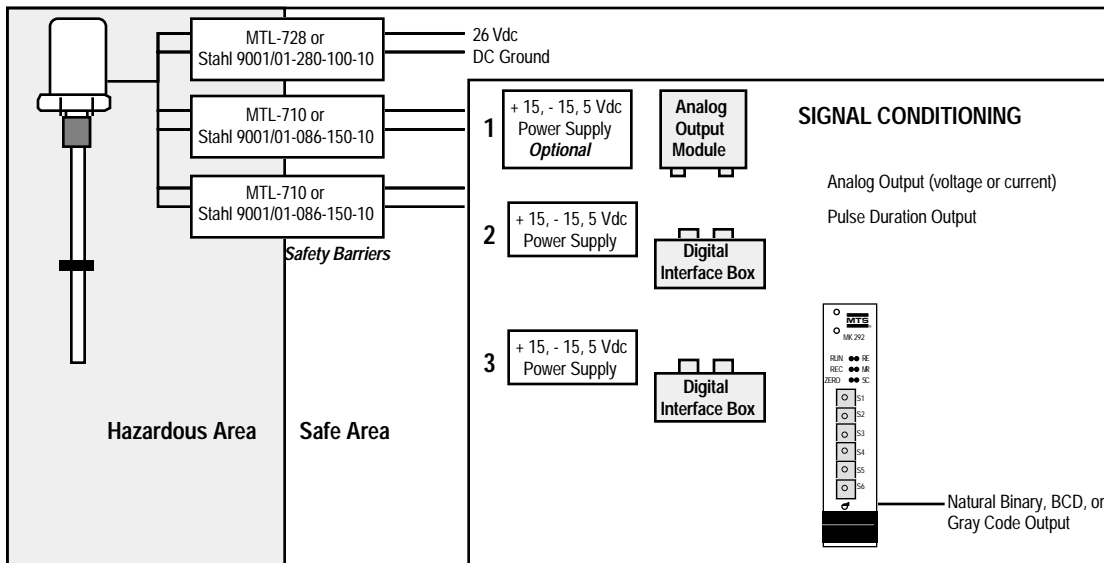

Figure 1.1
- A signal conditioning interface module (see Figure 1.1 -- 'Signal Conditioning')